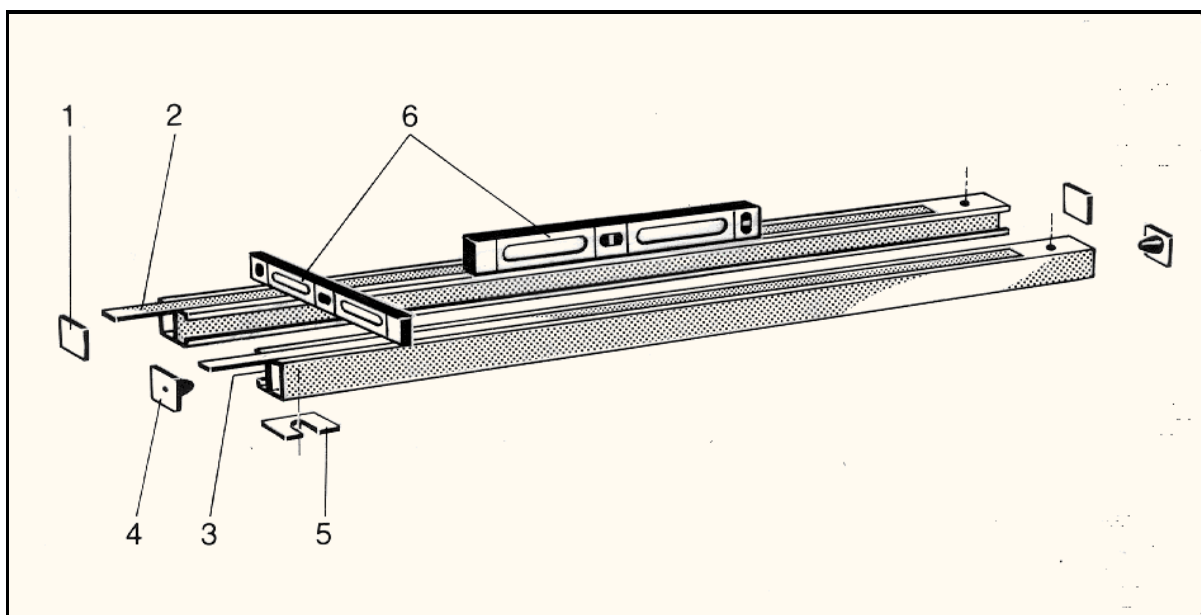
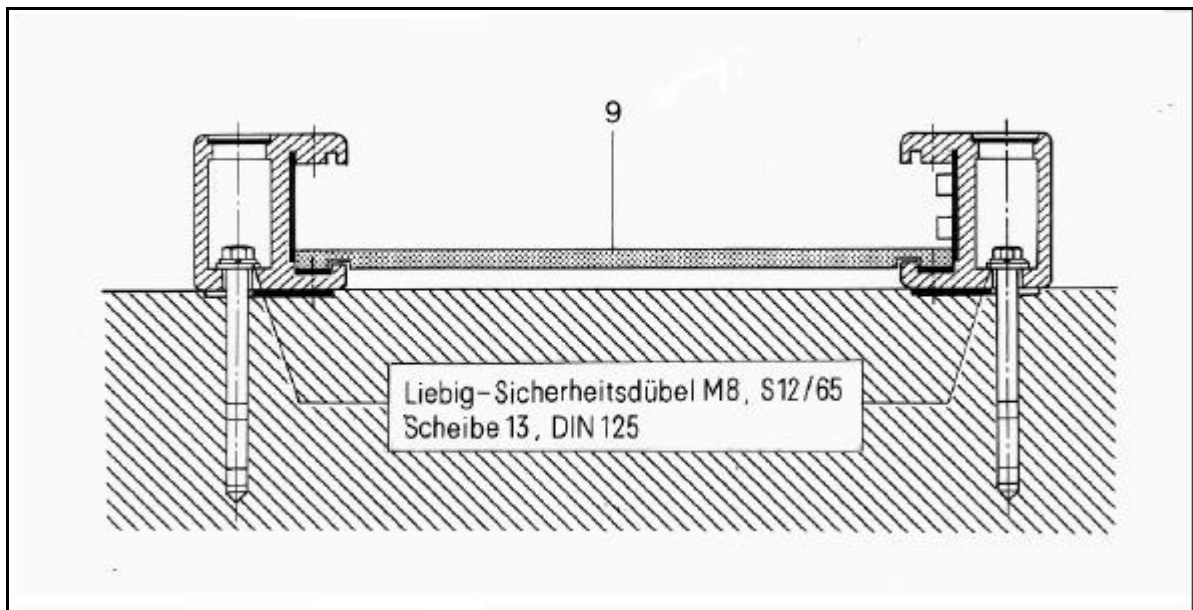

Fig. 2
Fig. 3
Remove the covers (Fig. 2/item 1) on the side of the floor rails and remove trim covers (item 2). Place floor rails over prepared mounting holes.
Note: guide rail with brakestrip (Fig. 2/item 3) and end stops (item 4) is to be placed to the front.
With a water level (Fig. 2/item 6) the highest spot of one floor rail has to be determined by the help of shims (Fig. 2/ item 5) (supplied with installation material). Arrange heavy duty bolts acc. to Fig. 3, insert through floor rail and tighten screws slightly.
If necessary level and shim the second floor rail to the same level surface as the first rail is (Fig. 2/item 5). Check with water level (Fig. 2/item 6) and adjust distance of rails with distance gauge (Fig. 3/item 9) (supplied with installation material). Finally tighten all 14 mounting bolts with torque wrench 50 Nm. Once again check adjustment of the floor rails. Insert each one shim into the two floor rails (Fig. 2/item 2).
To move along the column with carriage use a wooden board of about 6mm (.236") thickness for bearing protection. Place the wooden board right next to the head or foot end side of the floor rails (depending on which side the column is to be brought in). Bring the column in upright position and put it on the wooden board. Carefully move the column into the rails keeping attention on the horizontal brake and the SID switch to prevent them from being damaged. Then install cover on back rail (Fig. 2/item 1) and cover on front rail (Fig. 2/item 4).